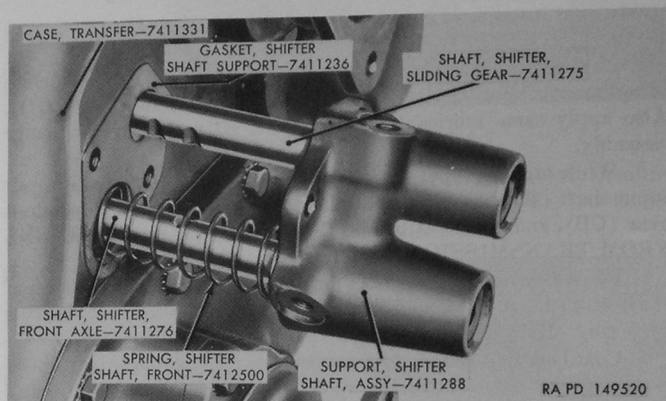

Figure 83. Installing shifter shaft support.
d. Slide shifter shaft support assembly (Z) onto shifter shafts as shown in figure 83. Push support into place at case. Coat threads of two  $\frac{3}{8}$ -16 x  $1\frac{1}{8}$  bolts with plastic type gasket cement, and attach support to transfer case with bolts and new lock washers. Tighten bolts to torque of 20 to 25 pound-feet.